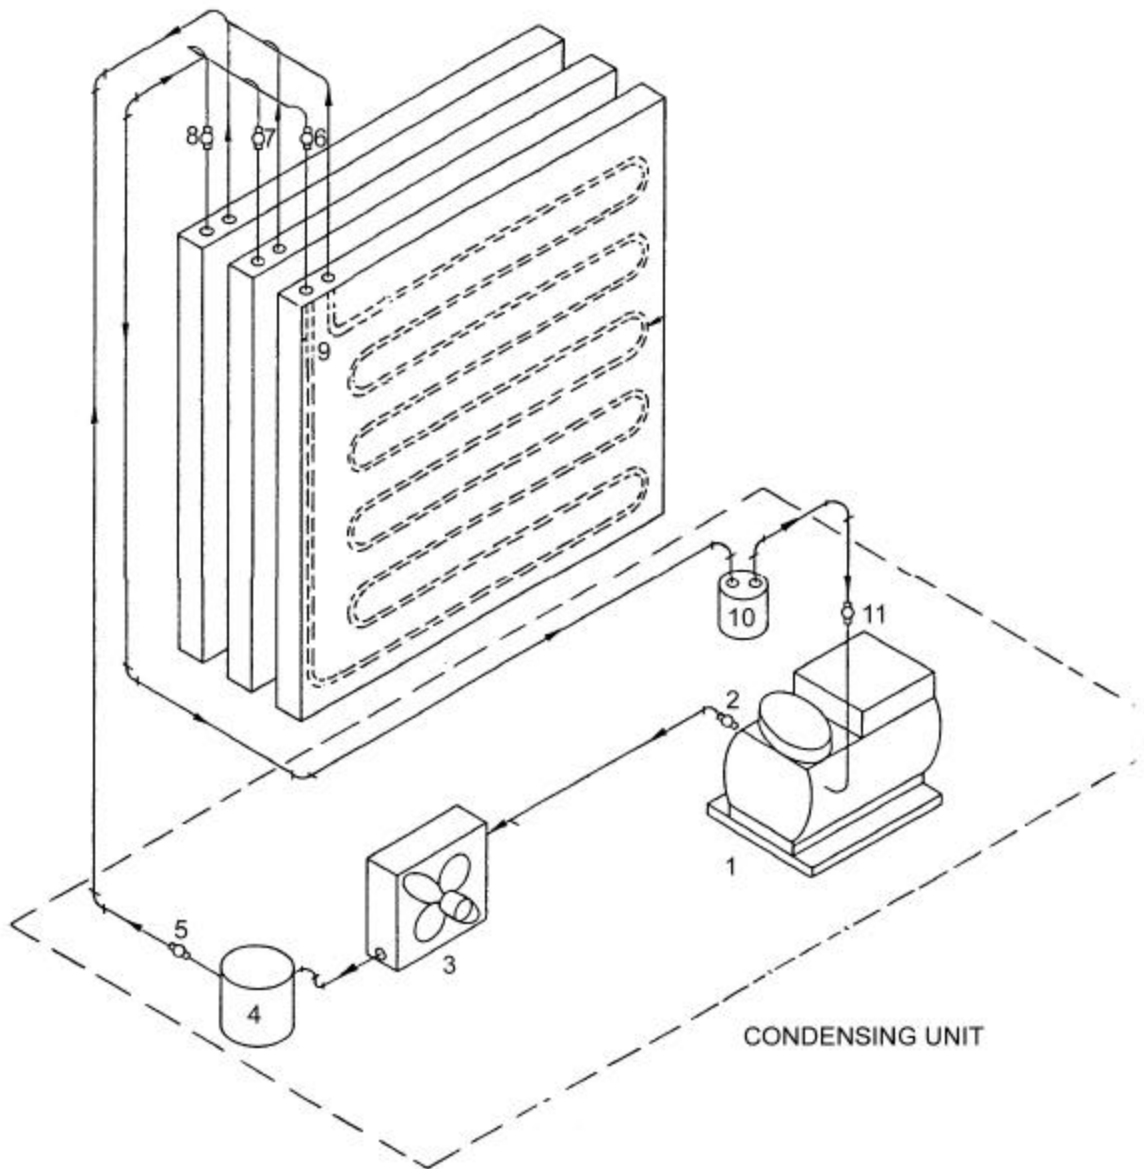

Figure 3 – Cold-Wel Blower Unit
A Dole Cold-Wel with Water Defrost contains three plates filled with a zero degree F. eutectic solution, and each plate has an internal refrigeration coil (9). (Refer to Figure 3)
### Equipment Items (Refer to Figure 3)